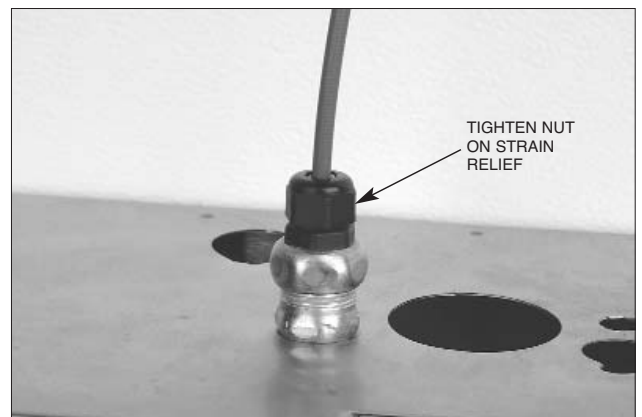

FIGURE 55
10. Tighten the strain relief nut onto the strain relief. See Figure 55.